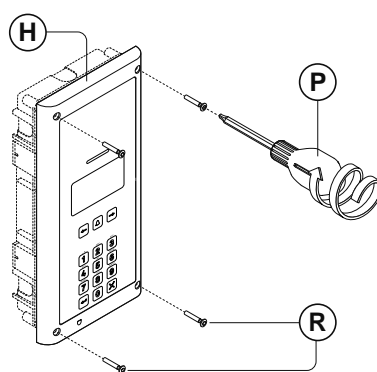

Fig. 56
11. After the system has been tested and is working correctly, move back the module support frame (H) carefully and then fix it to the flush box (C) using the screwdriver provided (P) (using the torx end) and the torx pin security screws provided (R), as shown in **Fig.56**. **Note: do not over tighten the screws more than is necessary.**